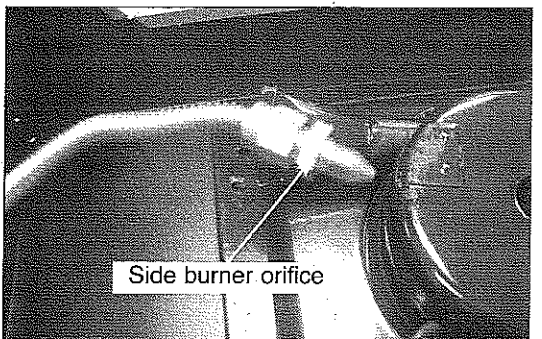

Fig 13
17. Use a wrench to remove the side burner orifice from the flex line and replace it with the NG orifice provided in the kit. (See Fig. 13)